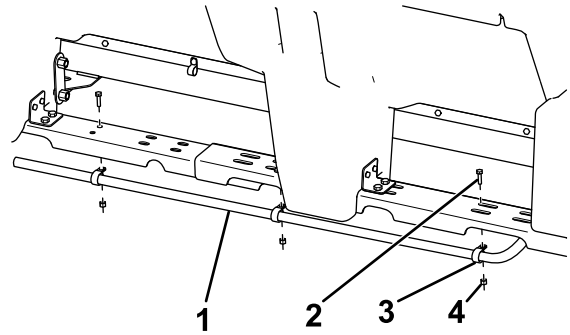

Figure 30
1. Attach the 3 hose clips to the long tank hose and secure them to the underside of the frame rail using 3 bolts (1/4 x 1 inch) and nuts (Figure 30).